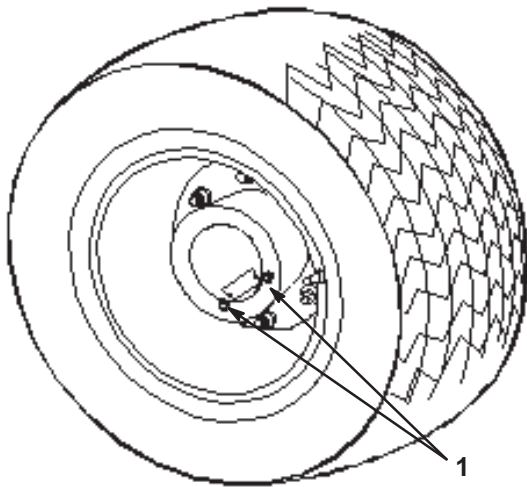

Figure 41
1. Position the sprayer on a level surface with the rear wheels positioned for draining as illustrated in Figure 41.
3. Place a pan under the drain plugs and remove them from the wheel (Fig. 41).